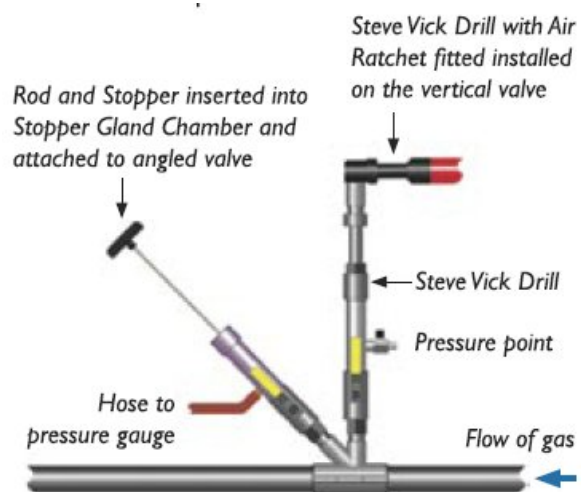

Figure 26- Service Isolator
**a) Metallic service – Using Service Isolator for Low Pressure services up to 2” (see Figure 26)**